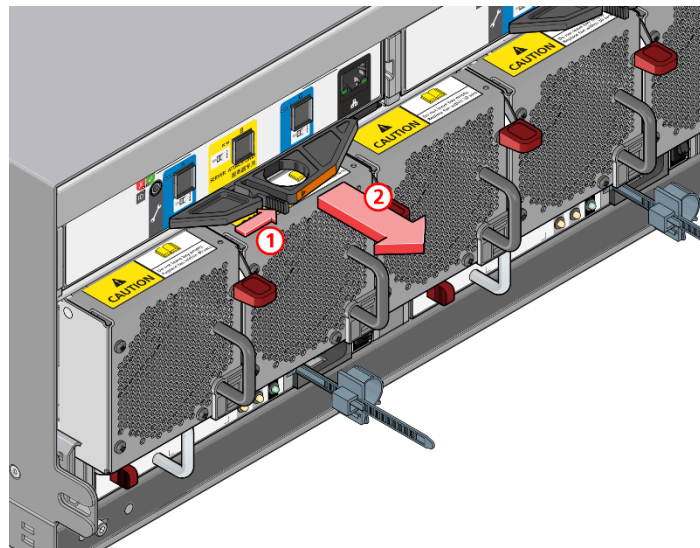

Figure 12: Removing an ESM (1)
2. Pull the latch outward to cam the module out of the enclosure (Figure 12).